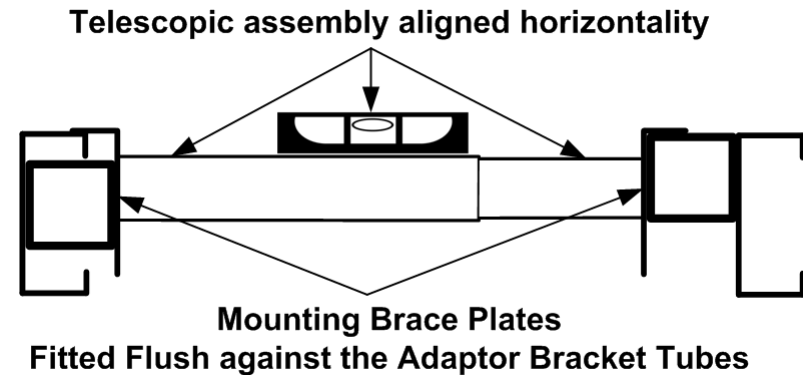

Figure 6
- Before screwing the Brace Bracket Plate in place align the mount telescopic assembly horizontally by using a box level. Refer to Figure 6.